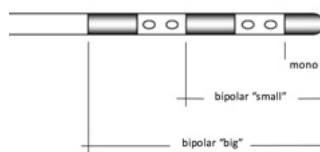

Fig. 7: electric field with 3 electrodes
- Both catheters give off a bipolar electric field (fig. 7 and 8). Only by using the PULSTRODE PLUS catheters, the operator can also help himself in trying to hire the best treatment area, also using the dedicated switch integrated into the device.
- Only for PULSTRODE PLUS catheters, therefore select the size of the bipolar electric field most suitable for the treatment, choosing between the "big" position (proximal and distal active electrodes) and the "small" position (median and distal active electrodes). The "mono" position will instead exclude proximal and median electrodes and only work with the distal electrode (fig.7). Although less clinically effectiveness, with all catheters it is also possible to have a monopolar type of stimulation/treatment, which therefore provides the only active distal electrode and the application of a ground plate on the patient to be connected to the special plug socket on the external generator.